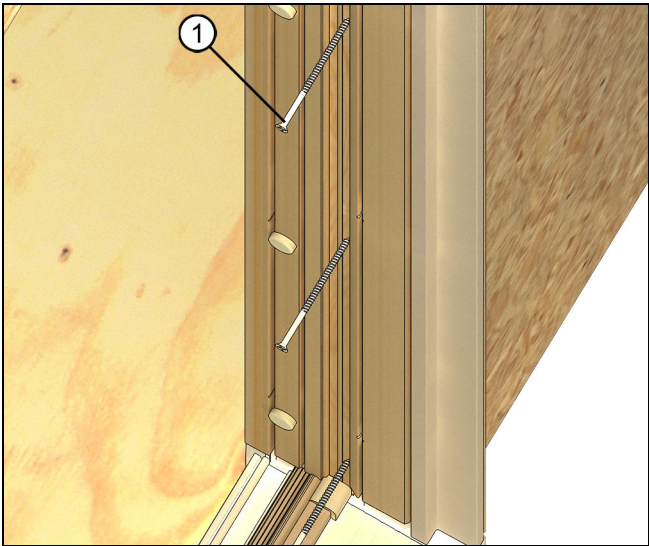

Figure 16
2. Fasten unit to wood buck/rough opening with #8 x 3" wood screws. Screws must be a minimum of 1" from edge of buck. Place the screws 6" from each corner and a maximum of 15" apart, with a minimum of 2 per side. See Figure 16.